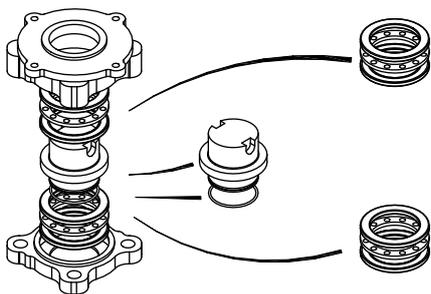

Fig. 1-1
1) Turn actuator onto its side, remove the two cap-headed screws holding base plate onto thrust base, pull out the drive bush complete with its bearing assembly. Remove the thrust bearing of the drive bush's double end (The two thrust bearings stopper ring near the mid bulgy – shoulder of the drive bush may not be removed.) (Refer to Fig.1-1).